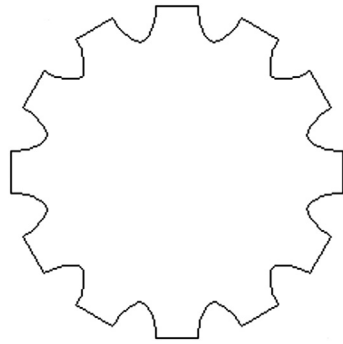

FIGURE 24.29
- Step 1.** Draw a circle and one tooth, similar to those found on a gear. Then, array it 12 times around the circle. Finally, do a little bit of cleanup trimming and edit the entire structure. This is your basic profile, as seen in Figure 24.29. You need not draw the exact same thing; something close is just fine.